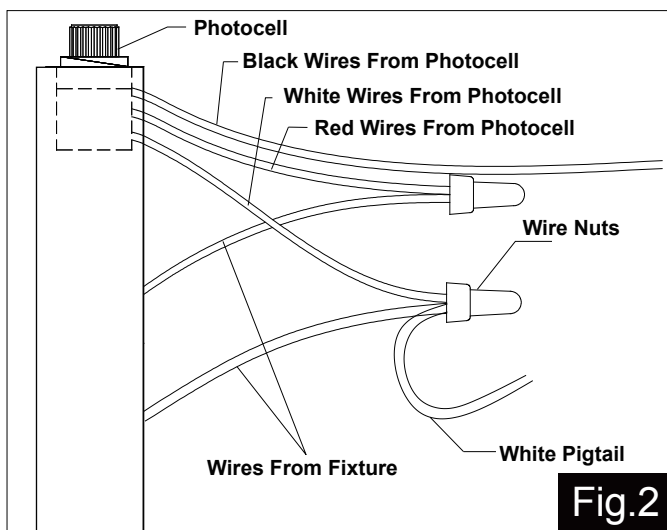

Fig.2
2. Loosen the wire nuts connected with the wires from photocell. (See Fig.2)